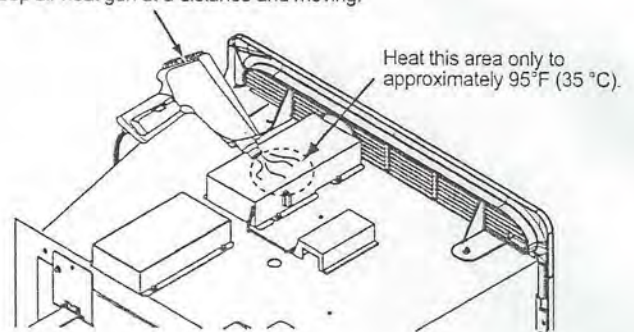

Figure 12. Testing fan operation.
- b. With an air heat gun set to **Low Heat** and its nozzle no closer than 4 inches away from DC Power Supply, apply heat as shown in Figure 12. The fan should come on when the temperature reaches 95° F (35° C). Replace the fan only when all of the following are present:
- 1) The temperature around the area indicated in Figure 12 is approximately 95° F (35° C).